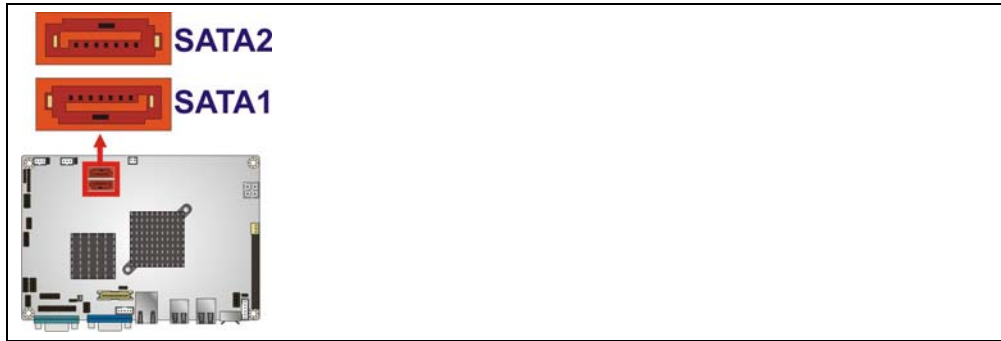

Figure 3-21: SATA Drive Connector Locations
- CN Location:** See **Figure 3-21**